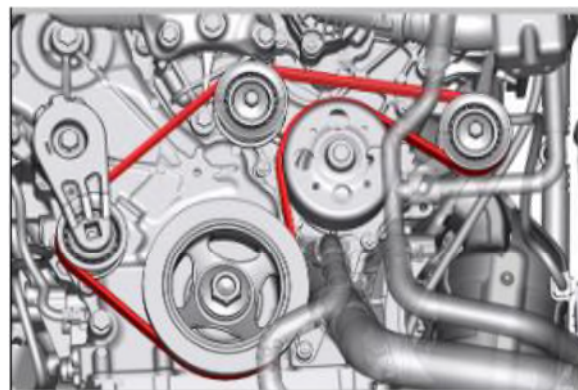

Figure 7 – Serpentine Belt Routing
9. Install the left idler pulley onto the front center of the engine and tighten the bolt to 24N·m (18Ft. Lbs.) (Figure 7).
10. Install the right idler pulley bracket onto the right side of the engine and tighten the bolt to 24N·m (18Ft. Lbs.) (Figure 7).
11. Install the right-side idler pulley and tighten the bolt to 24N·m (18Ft. Lbs.) (Figure 7).
13. Route the **NEW** serpentine belt around all the pulleys except the idler pulley (Figure 7).
14. Rotate the belt tensioner until it contacts its stop position. Route the serpentine belt around the idler and slowly let the tensioner relax. Make sure the belt is properly seated onto all pulleys (Figure 7).